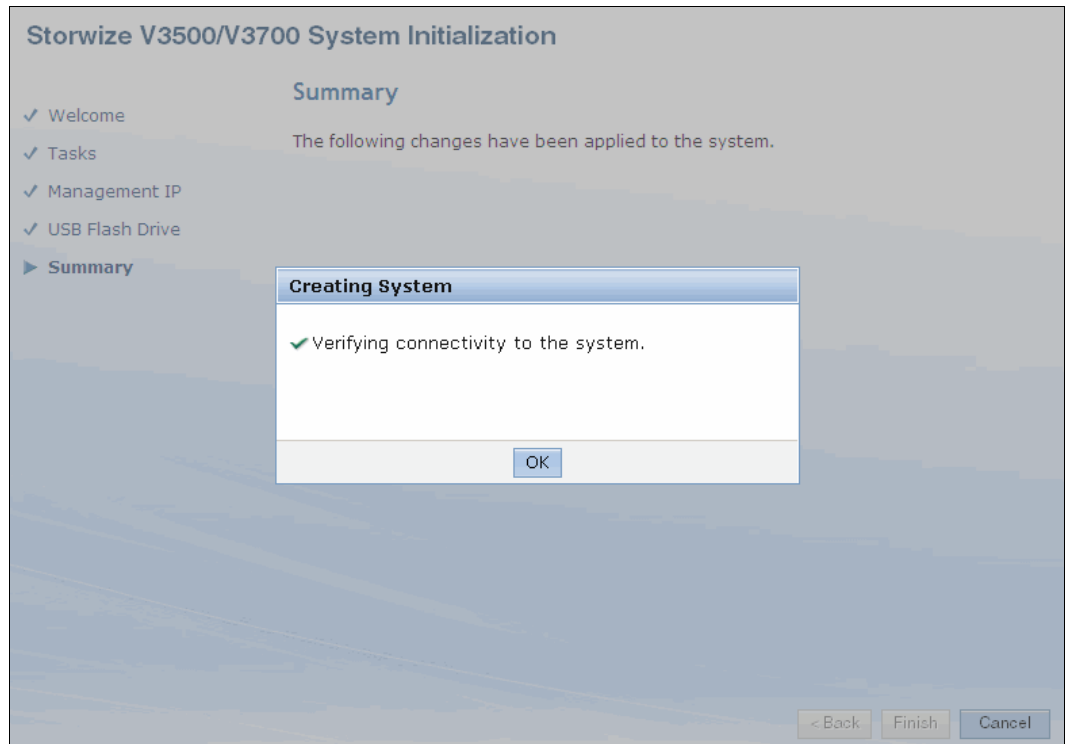

Figure 2-15 Verify system connectivity
8. The wizard then attempts to verify connectivity to the IBM Storwize V3700, as shown in Figure 2-15.